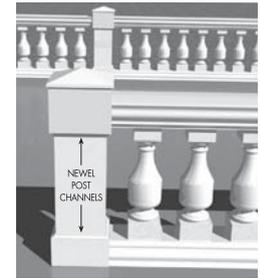

FIGURE 7D
**G)** Apply caulk to seam in channels of NEWEL POST assembly to prevent moisture infiltration (**FIG. 7D**).
**H)** Apply a 1/4" bead of urethane base adhesive to NEWEL POST TOP SECTION, and then install NEWEL POST TOP (**FIG. 7D**).